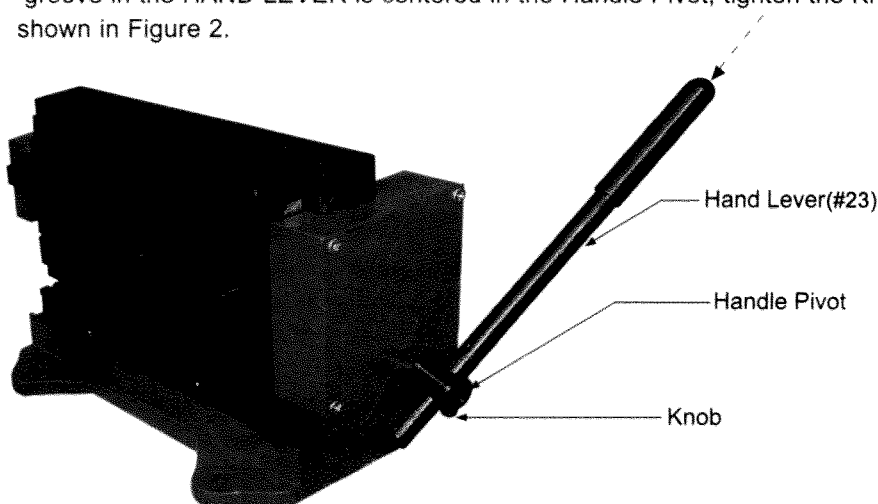

Figure2 - Hand Lever Installation
Step 2: Insert the HAND LEVER (#23) into the Handle Pivot, grooved end first. When the groove in the HAND LEVER is centered in the Handle Pivot, tighten the Knob as shown in Figure 2.